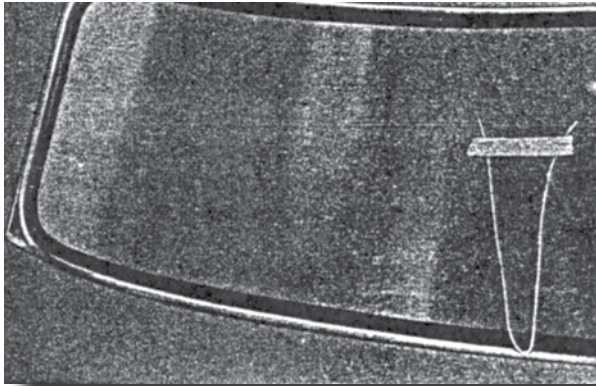

Fig. 20-Cord in Pinch.Weld Cavity
4. Insert a strong cord into the pinch-weld flange cavity of the rubber channel, tie cord ends at bottom center of assembly and tape ends to windshield glass (fig. 20).